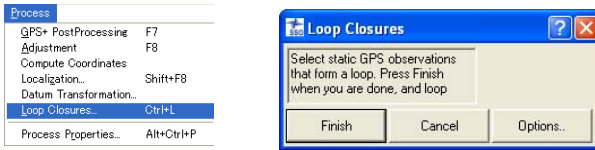

Figure 6-33. Process Loop Closure
1. To generate a loop closure report, click **Process ▶ Loop closures**. The *Loop closures* dialog box will display (Figure 6-33).